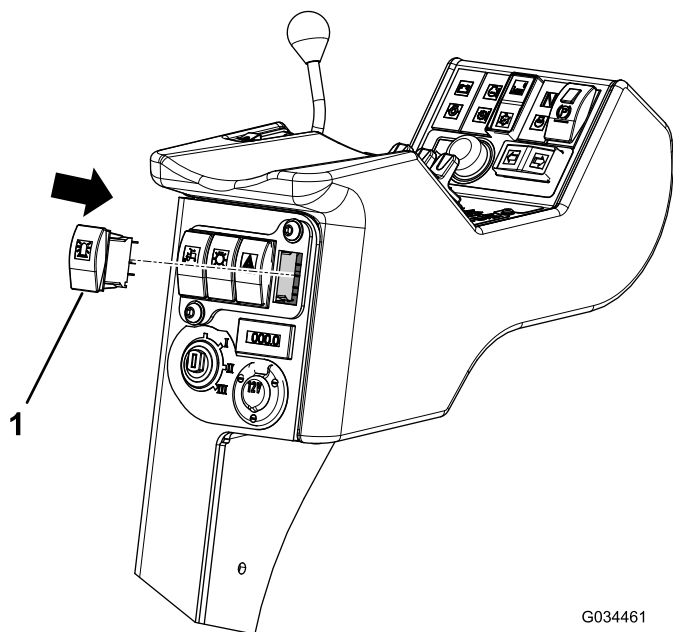

Figure 9
3. Press the switch into the cutout until it clicks into place (Figure 9).